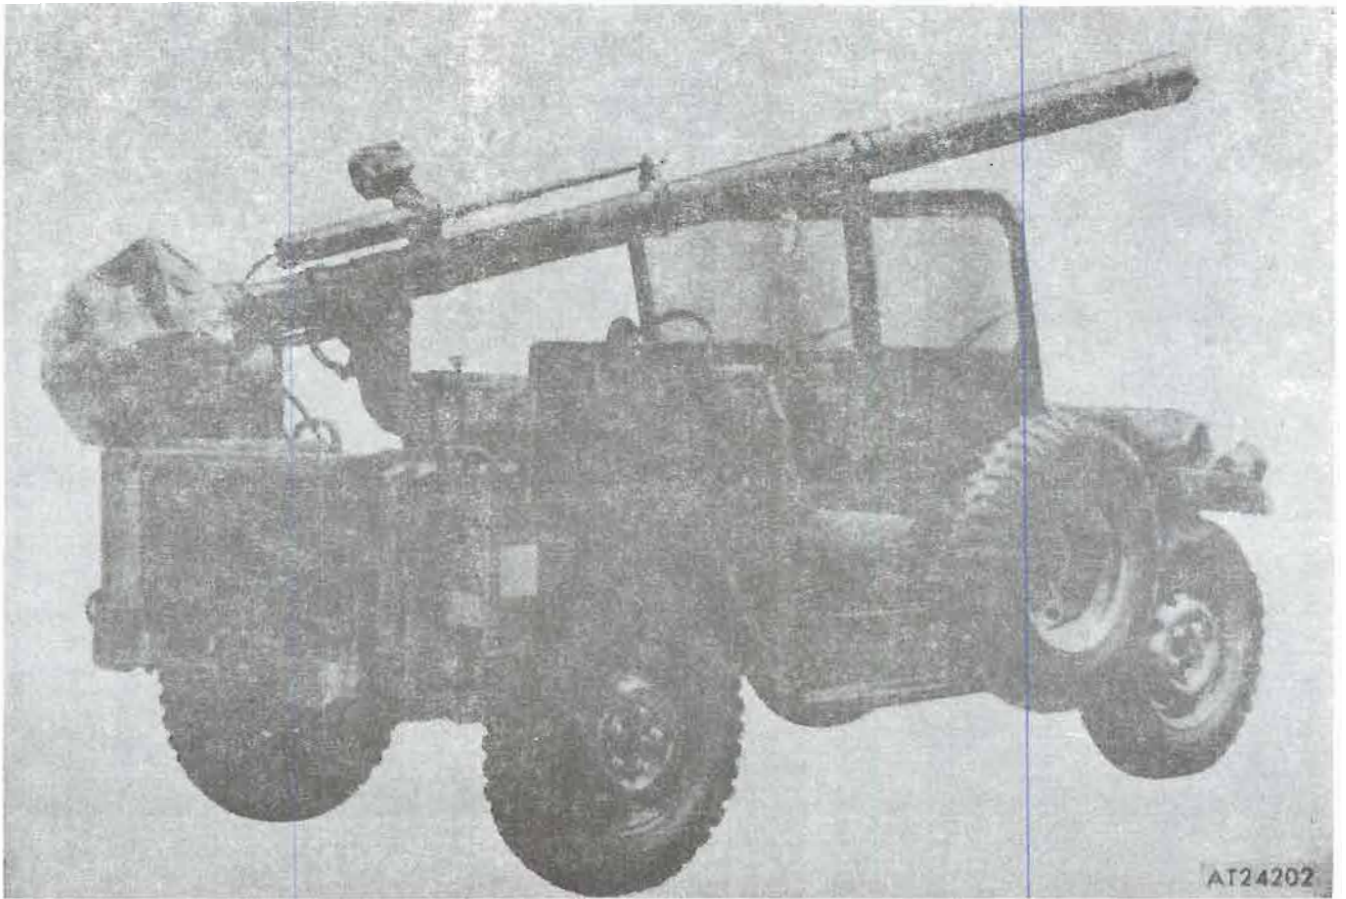

Figure 1-2. Utility truck, 4 x 4, 1/4 ton, with 106-MM recoilless rifle; right rear view.
b. The M151A1C vehicle (fig 1-2) mounts a 106-mm recoilless rifle, on an M79 rifle mount. Provisions are provided for carrying six rounds of ammunition and weapon tools to create a mobile weapon system.